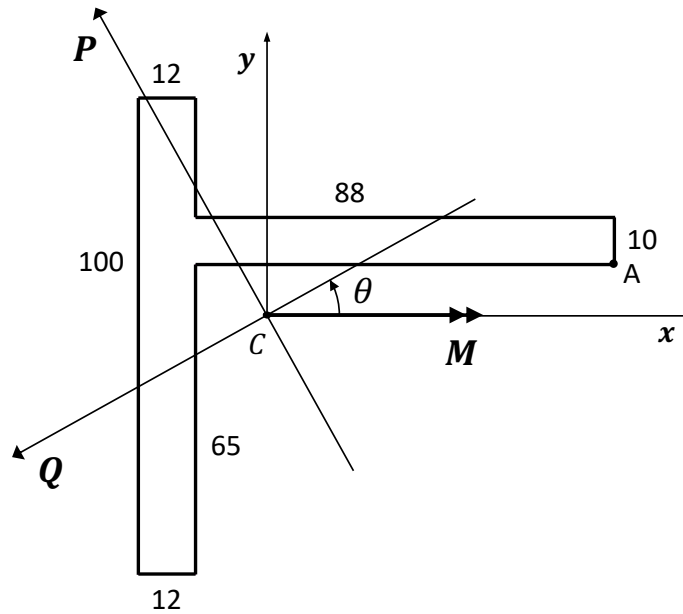

Figure Q23
23. A beam with the cross-section shown in Figure Q23 for which the direction of the principal axes and the magnitudes of the principal 2nd moments of area are as given below, is subjected to a bending moment, $M = 2000Nm$ along the x -axis.